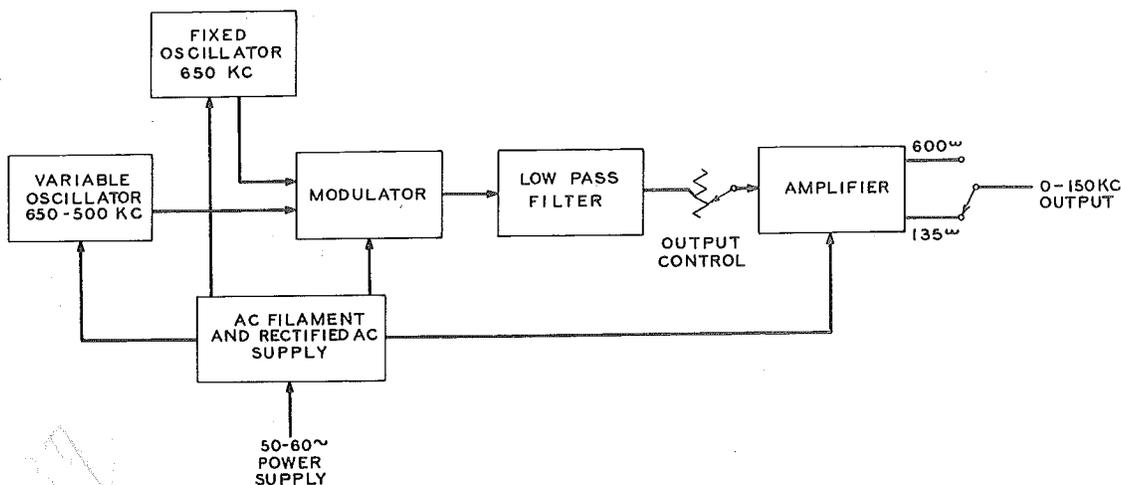

Fig. 1 - Principal Circuit Features.
2.01 The circuit for the 17B oscillator is shown in detail on Drawing ESO-624450 and for the 17A on ESO-621346 (not attached). Each oscillator is provided with a copy of the circuit drawing mounted on the inside of the rear cover and a wiring diagram. A schematic diagram of the principal circuit features of the oscillator is shown in Fig. 1.
2.02 As shown in Fig. 1, the circuit consists of two oscillator circuits, one of which is variable, supplying two frequencies to a modulator circuit in which the difference frequency is separated from the other modulation products by means of a low-pass filter. The output of the filter is then amplified to supply the oscillator output. All required filament, grid and plate power for the vacuum tubes is obtained from the a-c power mains. Additional details of these component circuits are shown in later figures.